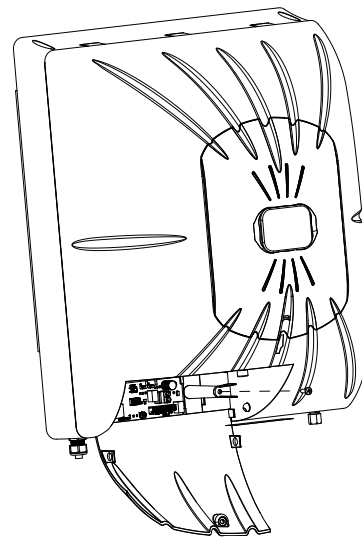

Figure 12
5. Open the access cover and remove the screw on the right side of the opening that holds the motor dome to the base. See Figure 12.
11. Close the access door on the dome and replace the screw. Refer to Figure 12.